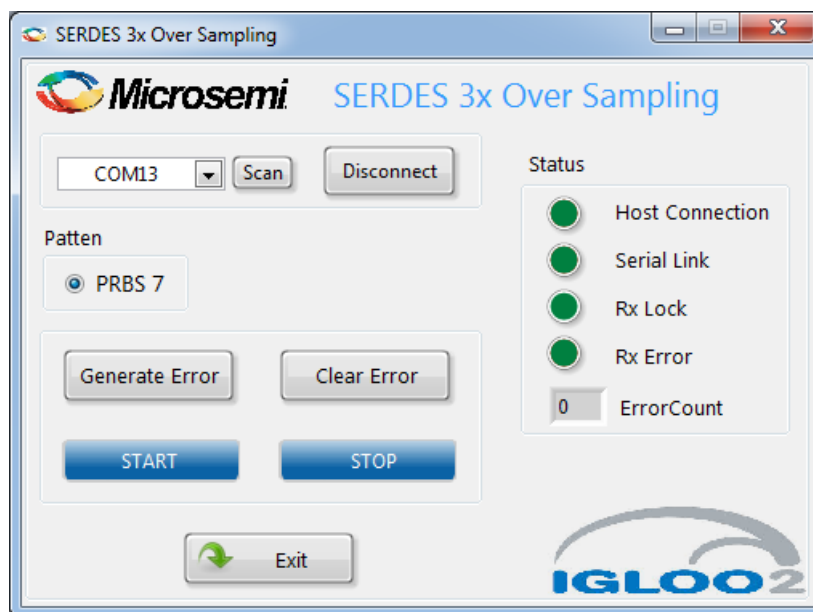

Figure 17 • Sample Window
8. Figure 17 shows a sample window during an error free operation of the SERDES 3x Oversampling demo.